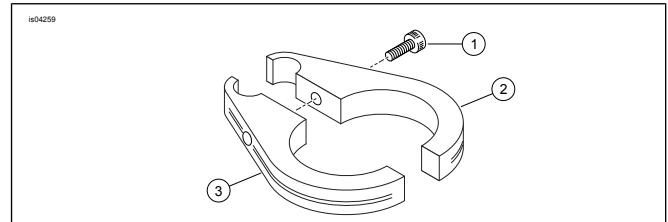

Figure 2. Service Parts: Billet Cable-Bracket Kit
See Figure 2 and Table 1.
1. See Figure 2. Apply LOCTITE 243 (blue) to the screw (1).